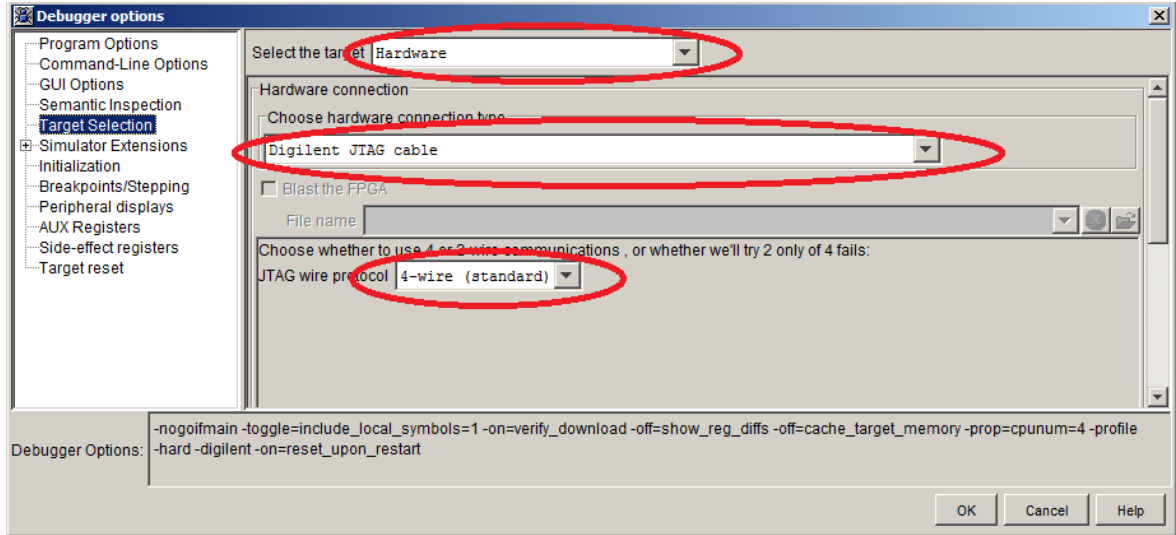

Figure 58 Debugger options – target selection
- In **Debugger Options** sub-tab **Target Selection**, select the correct settings for your debug probe. Figure 58 explains this at the example of using the USB Dataport: Select the “Digilent JTAG cable” option and check the setting of the “JTAG wire protocol”: